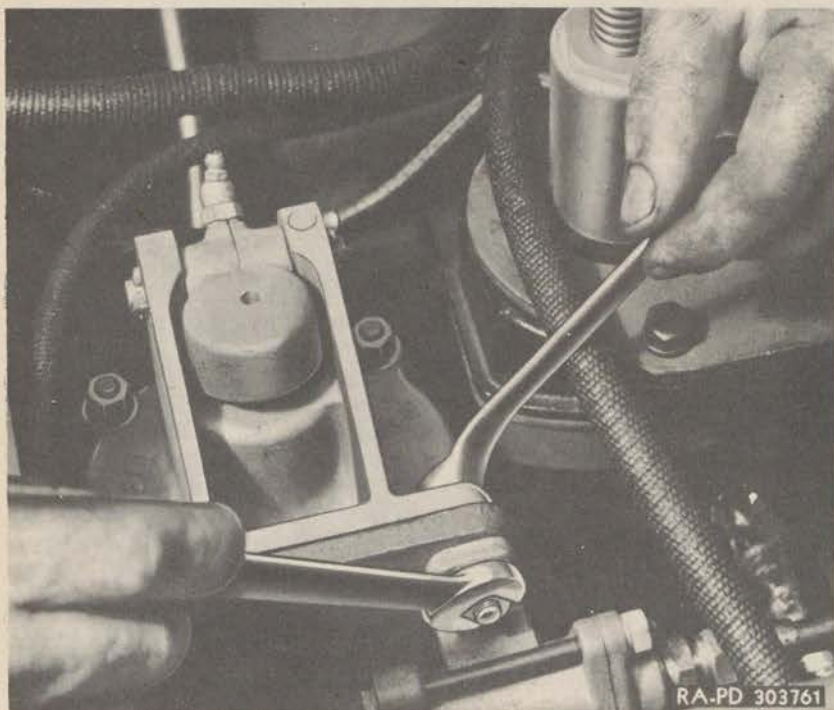

Figure 127—Removing Brake Valve Mounting Screws
(6) **REMOVE BRAKE VALVE.** Remove the cap screws, nuts and lock washers holding the brake valve assembly to the mounting bracket, and remove the brake valve (fig. 127).